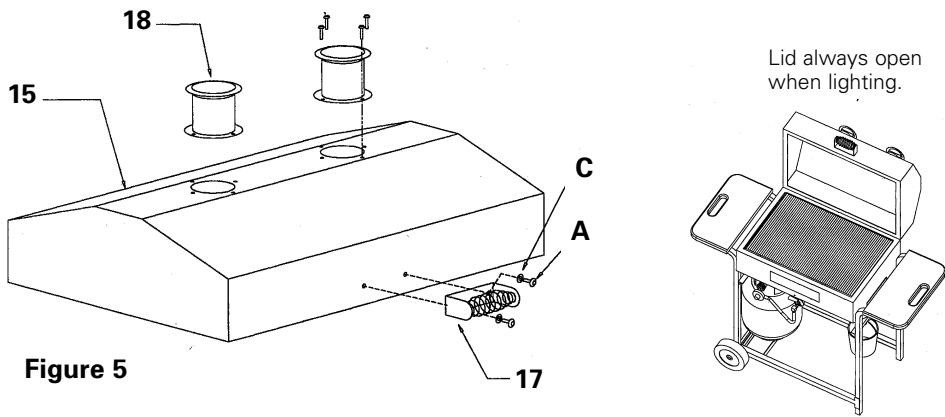

Figure 5
6. Refer to figure 5. Select the grill top handle (part 17) and attach it as shown with two "A" screws and "C" lockwashers into the threaded holes in the grill top. Select the two stacks (part 18) and attach them to the grill top with "A" screws, "C" lockwashers and "D" hex nuts.